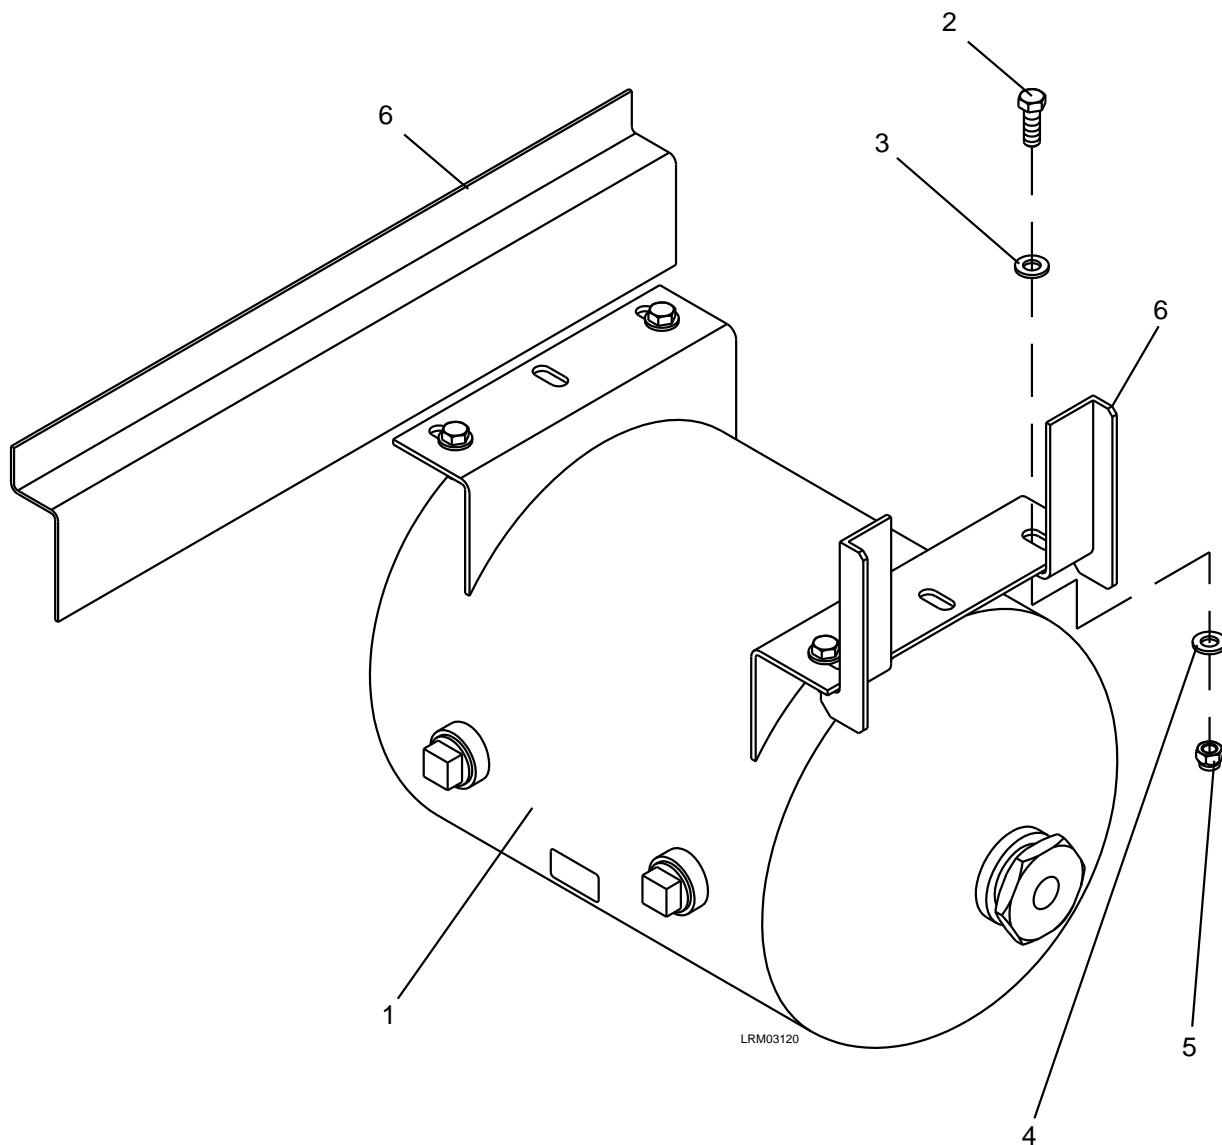

Figure 7-106: Brake Supply Reservoir
4. Carefully disconnect the fittings from the Brake Supply Reservoir (1). See Figure 7-106.
5. Remove the four M12 ESNA nuts (5), M12 plain washers (4), M12 x 35 bolts (2) and M12 plain washers (3).
6. Carefully remove the Brake Supply Reservoir (1) from car body brackets (6).